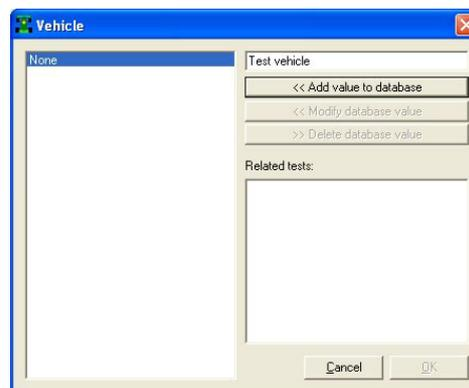

Fig. 3.6– *Add/Modify test attributes* window
- To set the Vehicle name, please push the Add/Modify button which corresponds to the Vehicle row. It will appear the window shown in Figure 3.6.
The test will be automatically removed from the database but **will not be deleted from your PC’s hard disk**, as reminded in the confirmation window, shown in Figure 3.6, which appears on your PC’s monitor.